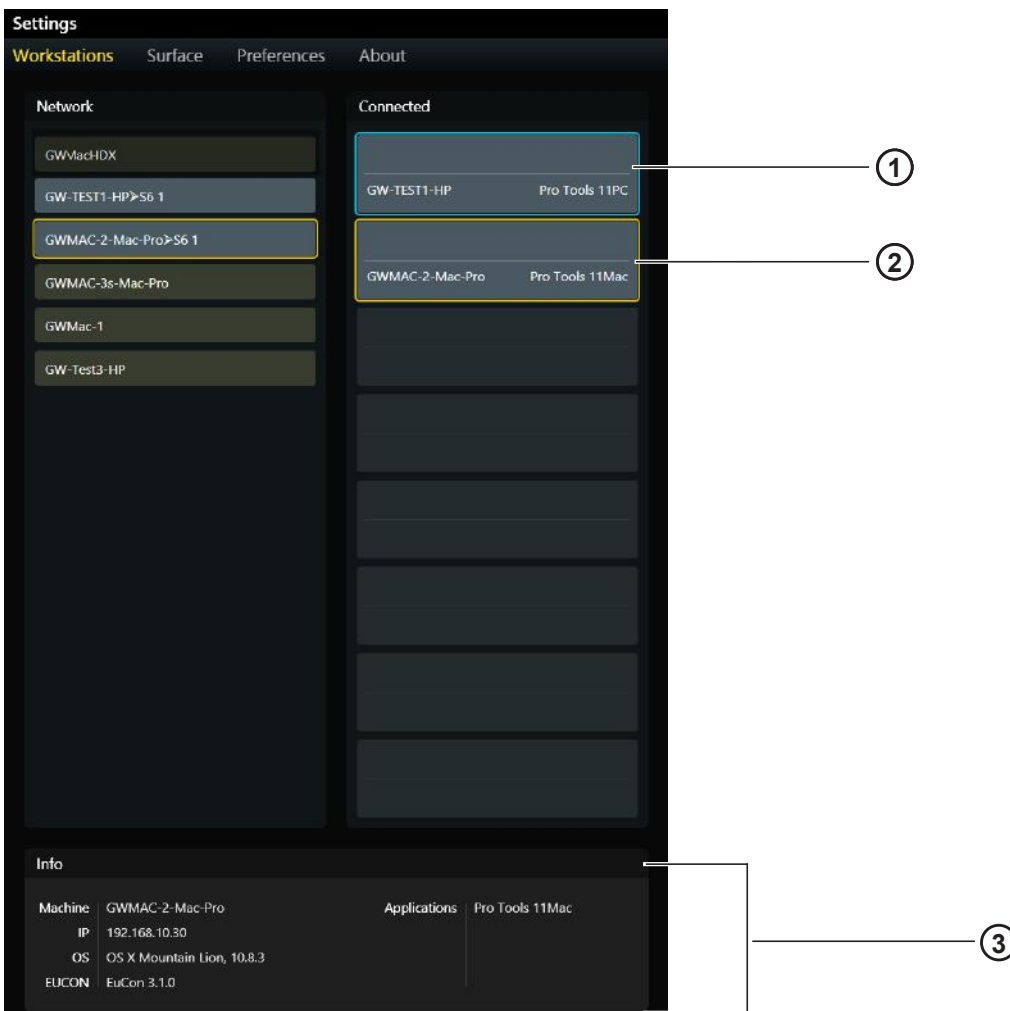

Figure 22. Attentioned workstation(1), selected workstation (2), and Info area (3)
- Touch a workstation in the Connected list without a blue outline. In Figure 22, GW-TEST1-HP is attentioned (blue outline).
- Touch its entry in the Network list. In Figure 22, GWMAC-2-Mac-Pro is selected (orange outline).